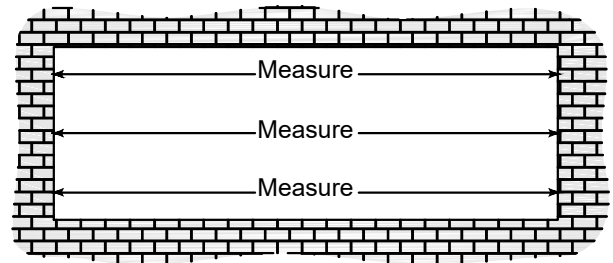

Fig. 19.2
- B. Measure the width of the opening at the top, middle and bottom. Select the smallest of these dimensions and subtract 1" to allow a minimum of 1/2" at jambs for shimming and receptor. SEE Fig. 19.2.